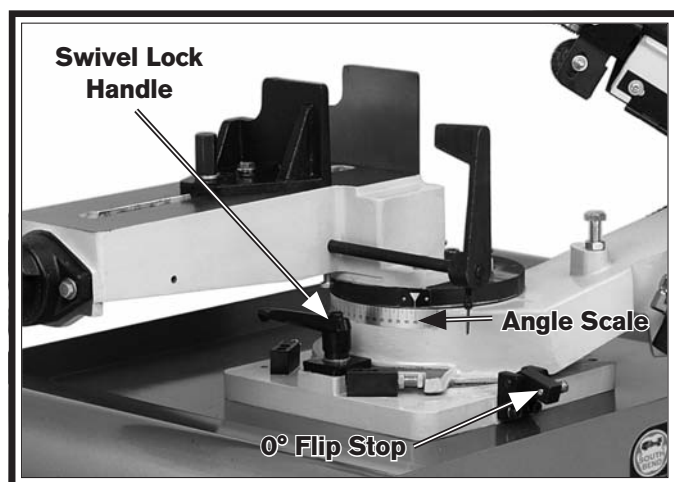

Figure 28. Swivel base.
2. Loosen the lock handle shown in **Figure 28**, then swivel the headstock to the desired angle, using the angle scale as a guide.
2. Rotate the 0° flip stop out of the way, as shown in **Figure 28**.